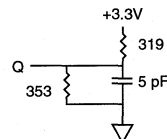

Fig. 2 OUTPUT LOAD EQUIVALENT
- ¹t_{HZCE}, ¹t_{HZOE} and ¹t_{HZWE} are specified with C_L = 5pF as in Fig. 2. Transition is measured ±200mV from steady state voltage.